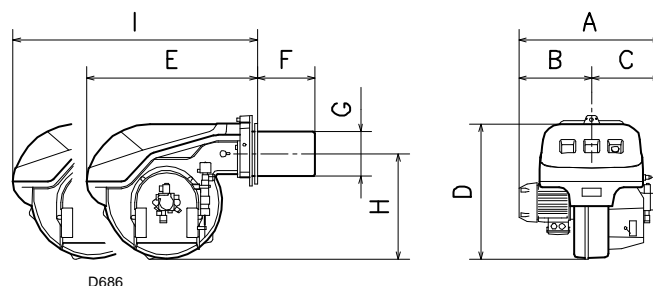

Fig. 1
3.2.3 Max. dimensions (Fig. 1) - approximate measurements
The maximum dimensions of the burner are given in (Fig. 1).